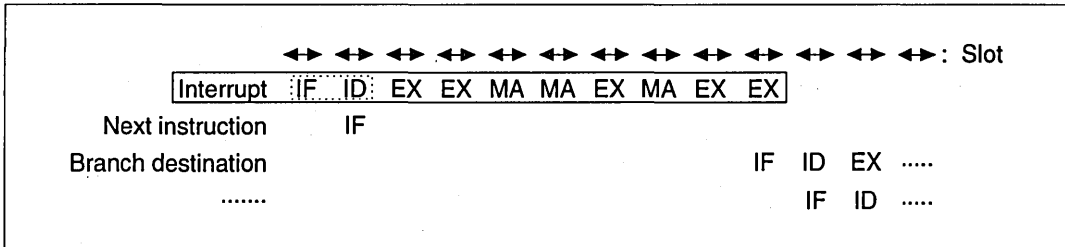

Figure 8.96 Address Error Exception Processing Pipeline
Operation: The address error is received during the ID stage of the instruction and everything after the ID stage is replaced by the address error exception processing sequence. The pipeline has ten stages: IF, ID, EX, EX, MA, MA, EX, MA, EX, and EX (figure 8.96). Address error exception processing is not a delayed branch. In address error exception processing, an overrun fetch (IF) occurs. In branch destination instructions, the IF starts from the slot that has the final EX in the address error exception processing.